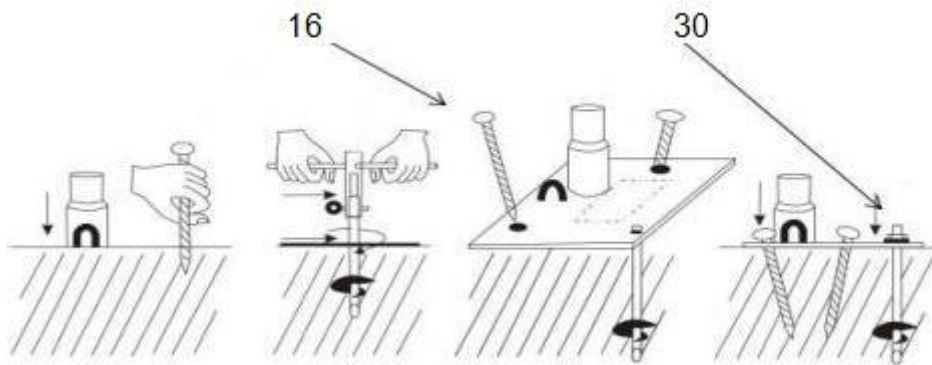

Figure 3
2. There are three holes on the Base Plates (No.5, 7) and two holes on the Base Plate (No. 6), for Stake Peg (No. 16). Refer to Figure 3 to place the stake pegs, THUS ALL BASE PLATES ARE SECURED.
As Figure 3 shows each Base Plate (No.5 No.6 & No.7) is equipped with 2 pieces of Stake Pegs (No.16) and 1 piece of spirial pegs(No.30)